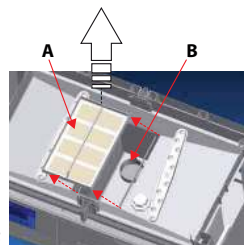
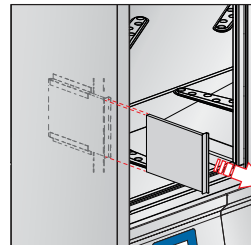

Fig. 3
Fig. 4
1. Check that the tank filters and air filter are in place (Fig.3) & (Fig.4). These filters must be cleaned after every cycle. Shut the dishwasher doors, turn the water valve to open and the main power switch to ON.
- Remove the tank filters (Fig.3) and clean them with a brush under running water.
- Remove the air filter behind the door and clean it with a brush under running water (Fig.4).
- Re-fit the tank filters (Fig.3) and the air filter (Fig.4) and check that they are firmly in place.